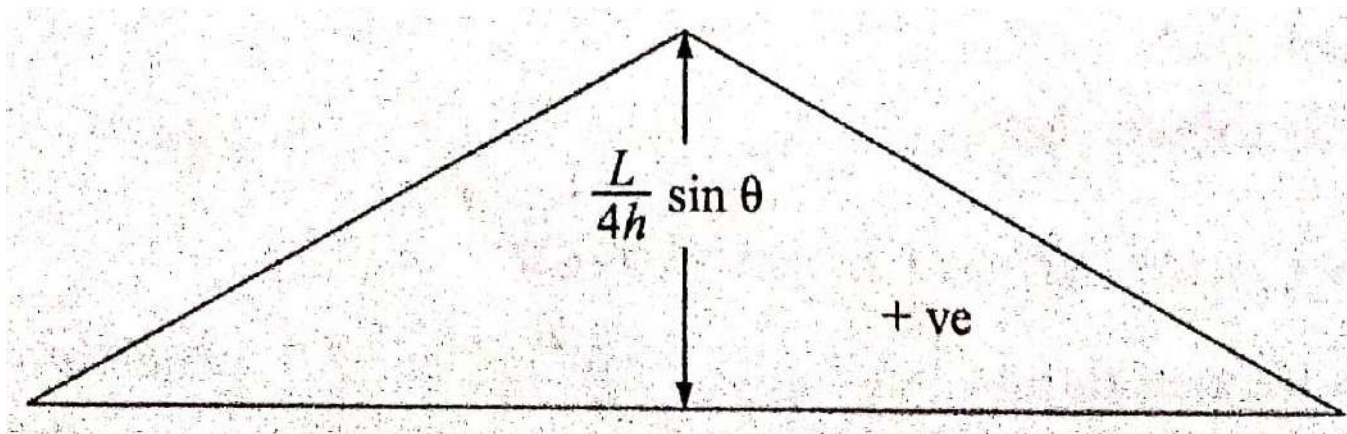

Figure 10: ILD for $H \sin \theta$
- $H \sin \theta$ diagram is drawn as ILD for H , only multiplied by $\sin \theta$. The ILD diagram is a triangle with maximum ordinate at C as shown in Figure 10.